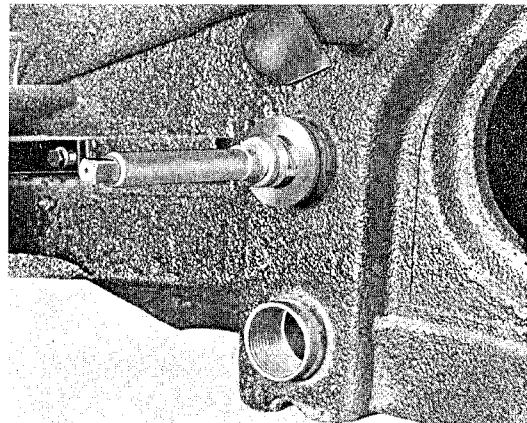

Fig. 57
3. If necessary, ream inner bearing bushing. For this purpose insert sleeve P 71 in axle tube (see fig. 57)